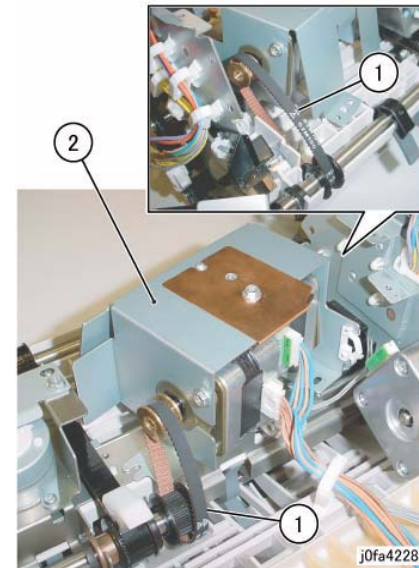

Figure 5 Removing the Eject/Set Clamp Motor Assembly (j0fa42282)
10. Remove the Eject/Set Clamp Motor Assembly. (Figure 5)